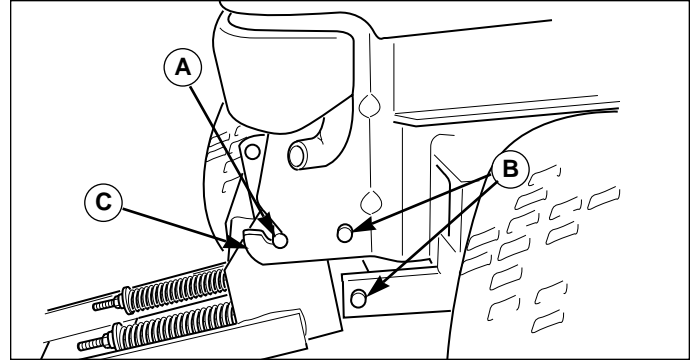

Figure 15. Attach Dozer
2. See Figure 15. Attach the dozer to the tractor by resting the dozer pins (A) on the front attachment hooks (C).
3. See Figure 15. Install two clevis pins (B) on both sides and secure with safety clips.